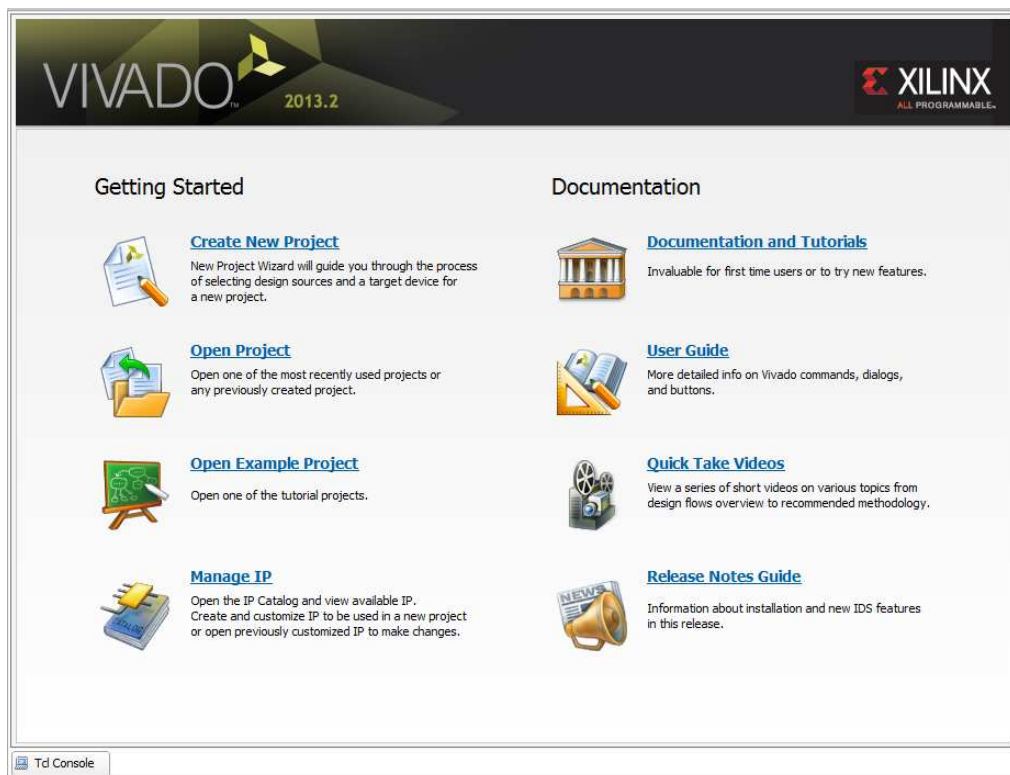

Figure 1: Getting Started Page
1. Start the Vivado IDE (**Figure 1**) by clicking the Vivado desktop icon or by typing **vivado** at a terminal command line.